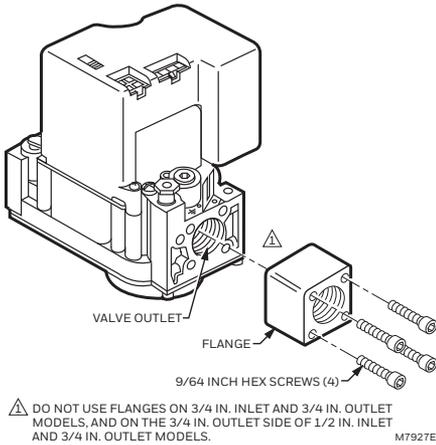

Fig. 2. Firmly fasten flange to valve but do not overtighten screws.
4. With the O-ring facing the ignition system control, align the screw holes on the ignition system control with the holes in the flange. Insert and tighten the screws provided with the flange. See Fig. 2. Tighten the screws to 25 inch-pounds of torque to provide a gas-tight seal.